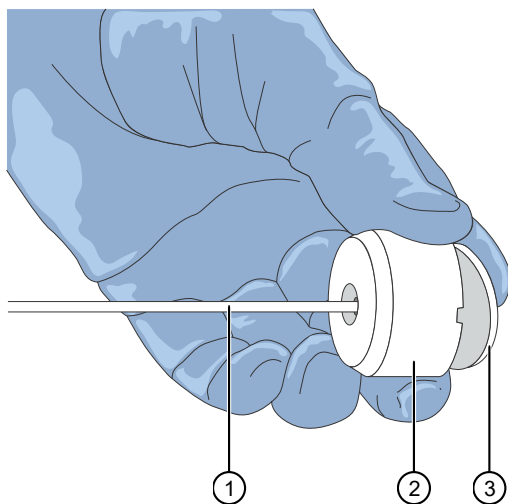

Figure 40 Components of the reagent buffer supply line and filter.
2. Carefully remove the filter from the end of the filter body (see Figure 40).